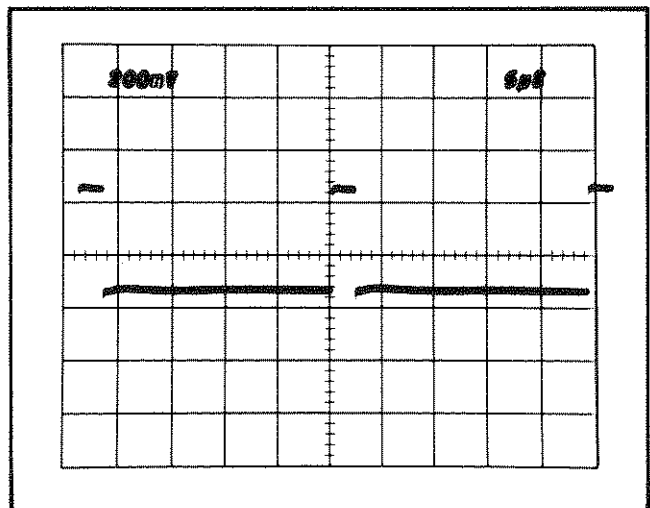

Fig. 5-16. CRT display when checking sweep holdoff time.
- c. CHECK—The holdoff time is 3.5  $\mu$ s or less (see Fig. 5-16).